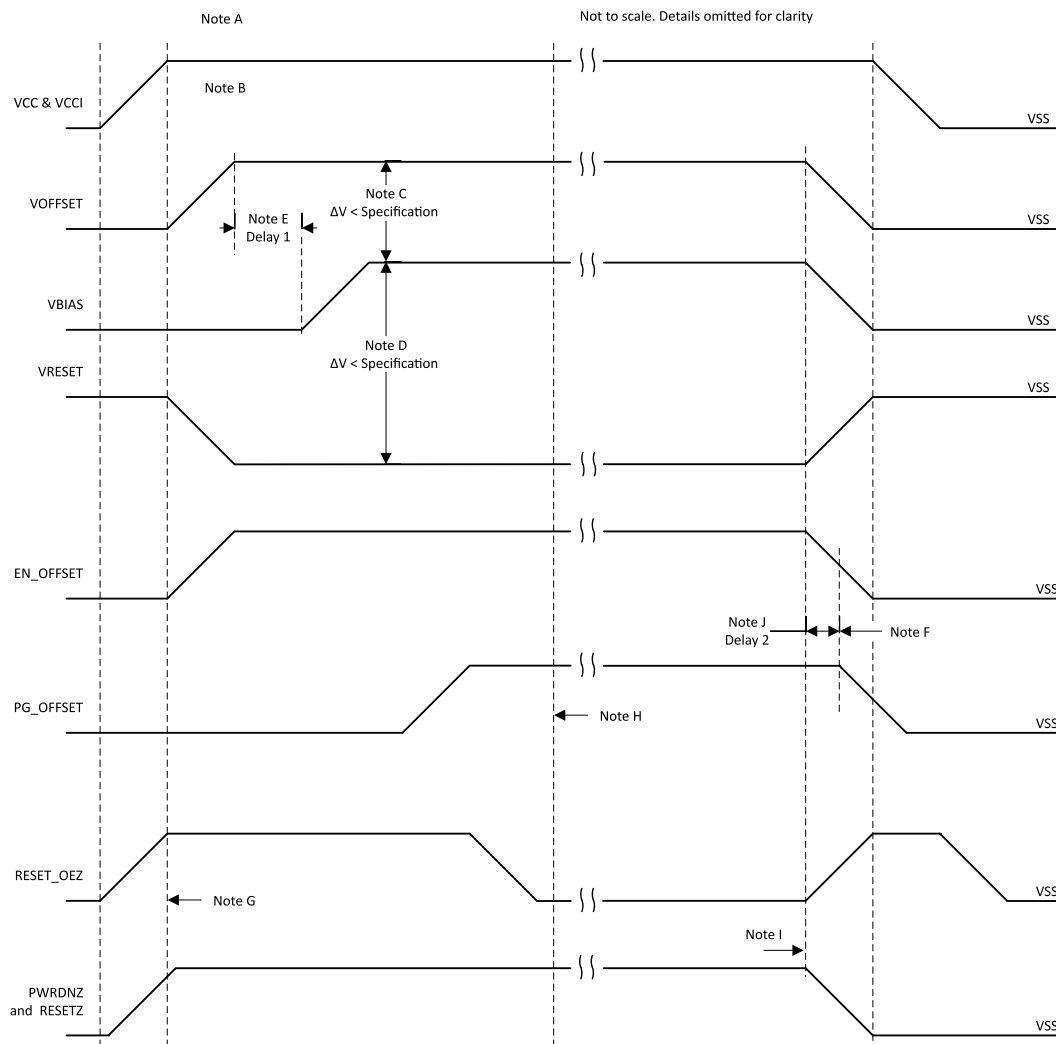

Figure 9-1. DMD Power Supply Requirements
For reliable operation of the DMD, the following power supply sequencing requirements must be followed. Failure to adhere to any of the prescribed power-up and power-down requirements may affect device reliability. See Figure 9-1 DMD Power Supply Sequencing Requirements.
- Power supply slew rates during power-up are flexible, provided that the transient voltage levels follow the requirements specified in Section 6.1, in Section 6.4, and in Figure 9-1.
- Power supply slew rates during power-down are flexible, provided that the transient voltage levels follow the requirements specified in Section 6.1, in Section 6.4, and in Figure 9-1.